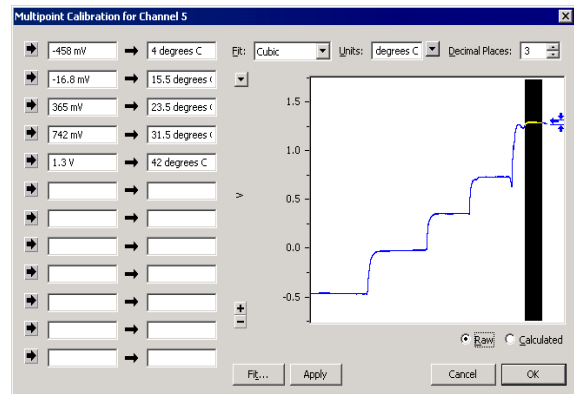

Figure 4. The Multipoint Calibration dialog box.
3. Choose Multipoint Calibration... from the Channel pop-up menu. The Multipoint Calibration dialog box will appear (Figure 4). Ensure that the Raw option is selected.
4. In the data display area of the dialog box, select from each calibration level in turn and enter the mean value in the left hand column by clicking the arrow button. Enter the corresponding known value in the right hand column of the Multipoint Calibration dialog box, as shown in Figure 4.
Tables of calibration data are available for some transducers (such as thermocouples or thermistors). You can enter these values directly in the relevant columns in the dialog box shown in Figure 4. In this case no transducer response data needs to be recorded for the calibration process, but you should ensure that the range of a subsequently recorded signal is consistent with the range of the entered calibration points.